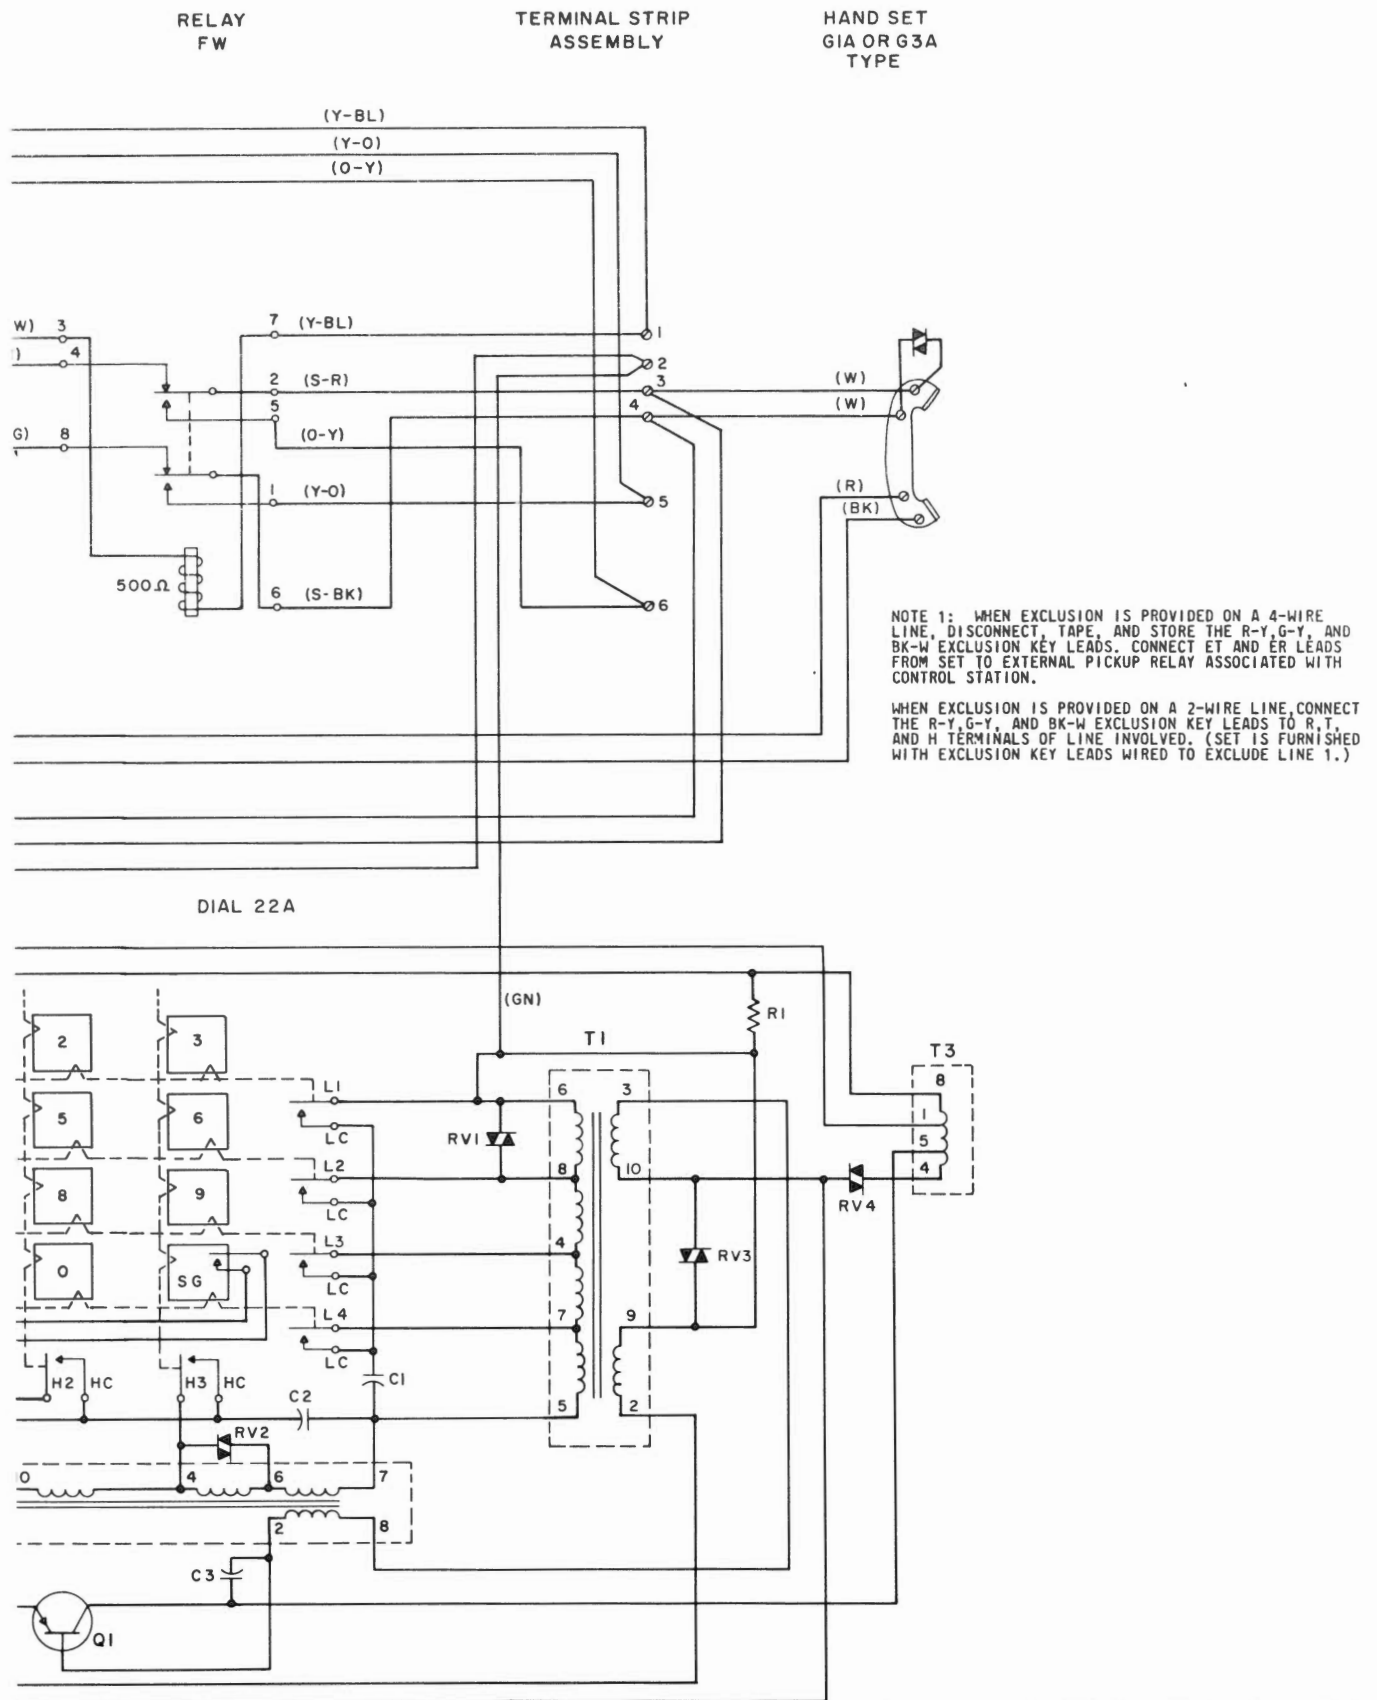

Fig. 3 - 568HT Key Telephone Set
5.01 A pushbutton-type dial is provided in the 568HT set (Fig. 3) to operate the associated central office equipment. This dial includes a transistor oscillator capable of generating two frequencies simultaneously. The oscillator is powered by line current from the common battery source.